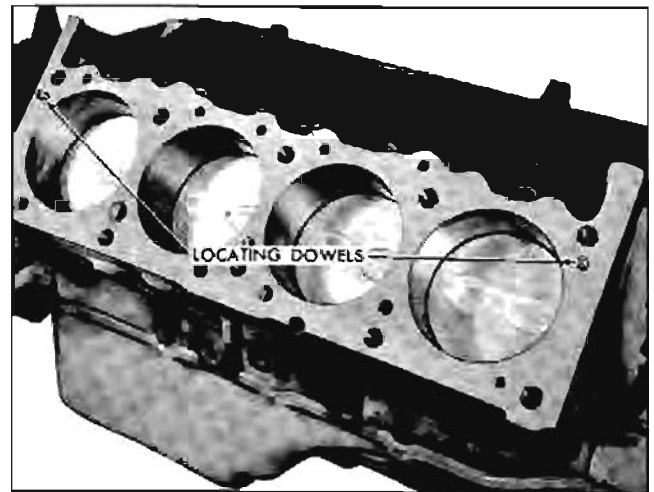

Fig. 6-26 Cylinder Head Locating Dowels
2. Place cylinder head in position on locating dowels (Fig. 6-26).